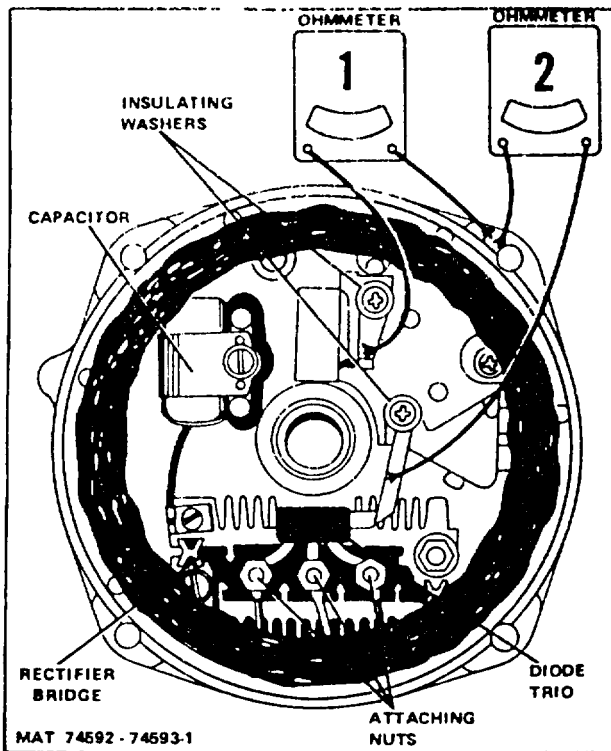
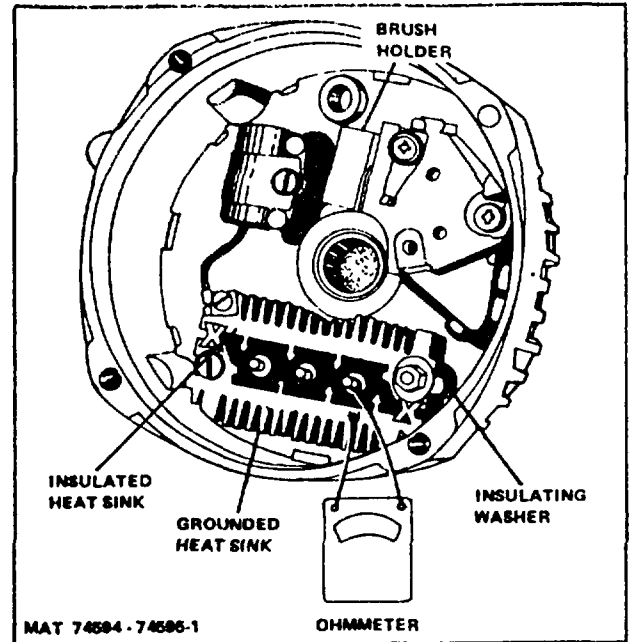
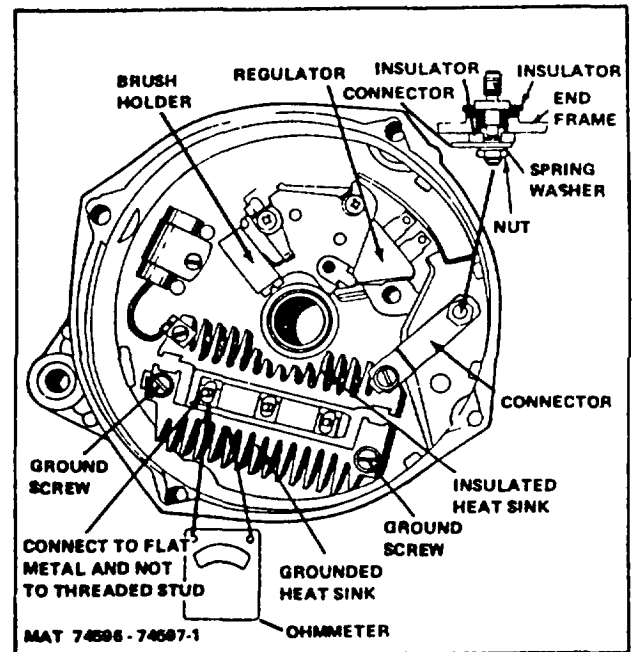

Figure 37. End Frame Assembly, Inside View
Figure 40. Rectifier Bridge Check
Figure 41. Rectifier Bridge Check
- (3) Check field winding for grounds. If grounded replace only the rotor.
- (4) Connect ohmmeter, using lowest range scale, from brush lead clip to end frame as shown in Step 1, Figure 37, then reverse lead connections.
- (5) If both readings are zero, either the brush lead clip is grounded or regulator is defective.
- (6) A grounded brush lead clip can result from omission of insulating washer (Figure 37), omission of insulating sleeve over screw, or damaged insulating sleeve over screw, or damaged insulating sleeve. Remove screw to inspect sleeve. If satisfactory, replace regulator as indicated in Alternator Repair section.
The diode trio is identified in Figure 37. First, connect an ohmmeter, using lowest range scale, from diode trio long connector to end frame as shown in Step 2, Figure 37; then, reverse lead connections. If both readings are the same, check for grounded brush lead clip caused by omission of insulating washer (Fig. 37), omission of insulating sleeve over screw, or damaged insulating sleeve. Remove screw to inspect sleeve. If screw assembly is correct, and both ohmmeter readings are the same, replace regulator.
**NOTE: Figures 37 and 39 illustrate two diode trios differing in appearance. Either one of these diode trios may be used in the alternator, since the two are completely interchangeable.**
To check the rectifier bridge, connect the ohmmeter to the grounded heat sink and one of the three terminals (Fig. 40). **IMPORTANT:** If rectifier bridge is constructed as shown in Figure 41, connect ohmmeter pressing down very firmly onto flat metal connector, and not onto threaded stud as in Figure 40. Then reverse the lead connections to the grounded heat sink and same terminal. If both readings are the same, replace the rectifier bridge. A good rectifier bridge will give one high and one low reading. Repeat this same test between the grounded heat sink and the other two terminals, and between the insulated heat sink and each of the three terminals. This makes a total of six checks, with two readings taken for each check. The ohmmeter check of the rectifier bridge, and of the diode trio as previously covered, is a valid and accurate check. **DO NOT** replace either unit unless at least one pair of readings is the same.
To replace the rectifier bridge, remove the attaching screws, and disconnect the capacitor lead. Note the insulator between the insulated heat sink and end frame (Fig. 40). Rectifier bridges may vary in appearance but are completely interchangeable in these generators.
After removing the three attaching nuts, the stator, and diode trio screw (Figs. 40 and 41), the brush holder and regulator may be replaced by removing the two remaining screws. Note the two insulators located over the top of the brush clips in Figure 37; these two screws have special insulating sleeves over the screw body above the threads. The third mounting screw may or may not have an insulating sleeve. If not, this screw must not be interchanged with either one of the other two screws, as a ground may result, causing no output or uncontrolled generator output. Regulators may vary in appearance but are completely interchangeable.